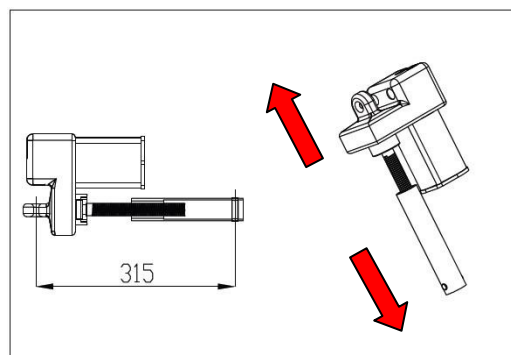

Figure 4.7.4
7) As shown in Figure 4.7.4, the incline motor should be adjusted to a minimum stroke of 315 mm.